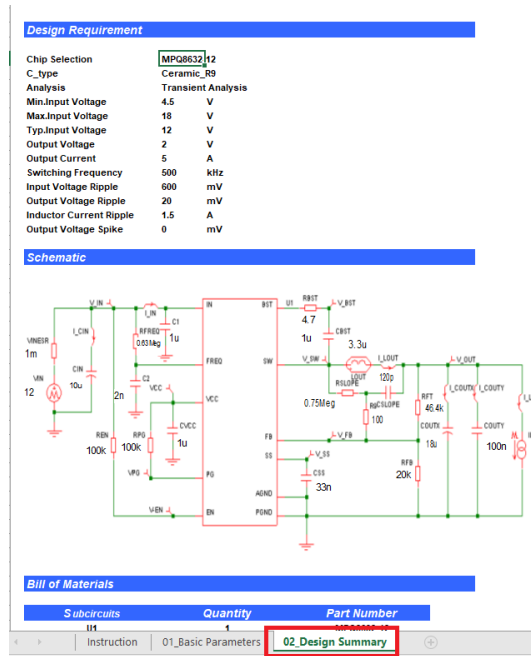

Figure 22: Design Summary Sheet
- The “02_Design Summary” sheet has all the related information. The “01_Basic Parameters” sheet is listed in this sheet. The user can obtain a completed report about the customized circuit (see Figure 22 on page 18).